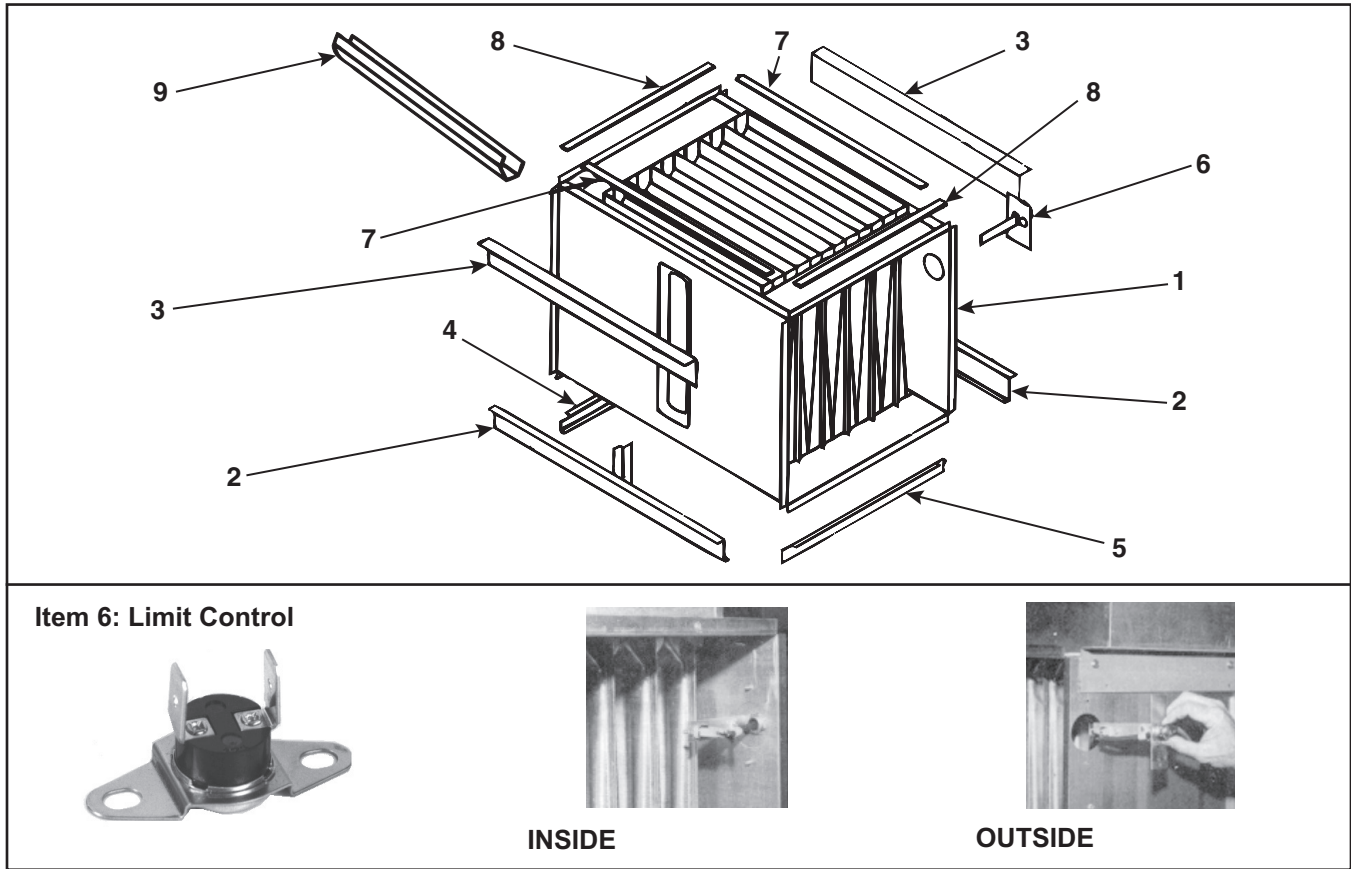

Figure 3. Heat Exchanger Assembly (Refer to Table 5)
*Quantity is one (1) unless otherwise indicated.
**The limit control on the bracket (item 6A) is accessible from inside or outside the furnace (see Figure 3).